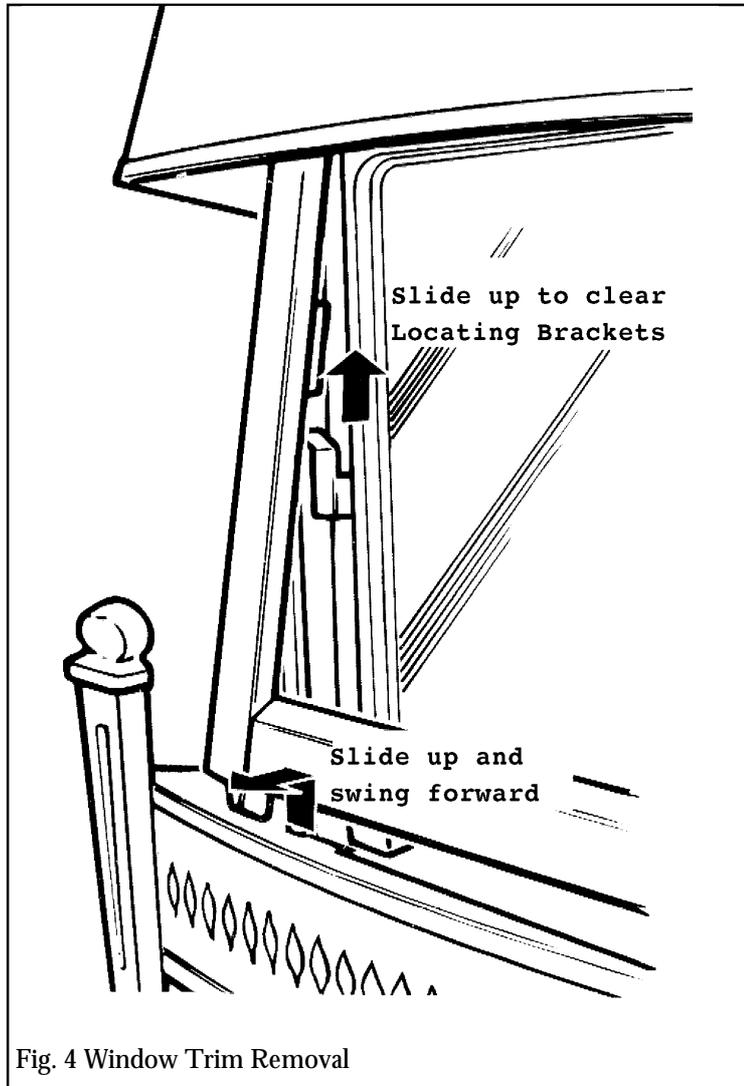

Fig. 4 Window Trim Removal
2.7.1 Detach the window trim by sliding its side channels upwards to clear the location brackets on the window frame sides. Pull the bottom of the trim forward slightly and then pull down to clear the outer case hood - see Fig.4
3.1.1 Detach the window trim by sliding its side channels upwards to clear the location brackets on the window frame sides. Pull the bottom of the trim forward slightly and then pull down to clear the outer case hood - see figure 4.